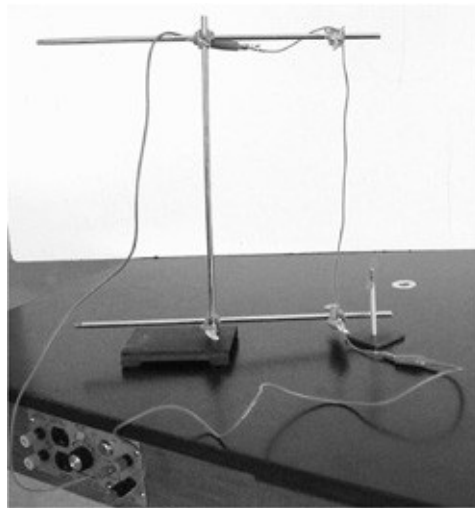

Figure 107-1 *Measuring the effect of current on a magnet.*
5. Place the compass close to the wire. (The compass will point in the direction of the Earth's magnetic field. Imagine a circle formed around the wire when viewed from above. To experience the force generated by the magnetic field of the wire, the compass needle should not be at a tangent to that circle, but it should form some angle to the tangent at that point. This is shown in Figure 107-1.)
With a current flowing through the wire, the compass is deflected. The magnetic field deflects the compass needle in the direction of the tangent of the circle, as shown in Figure 107-1.